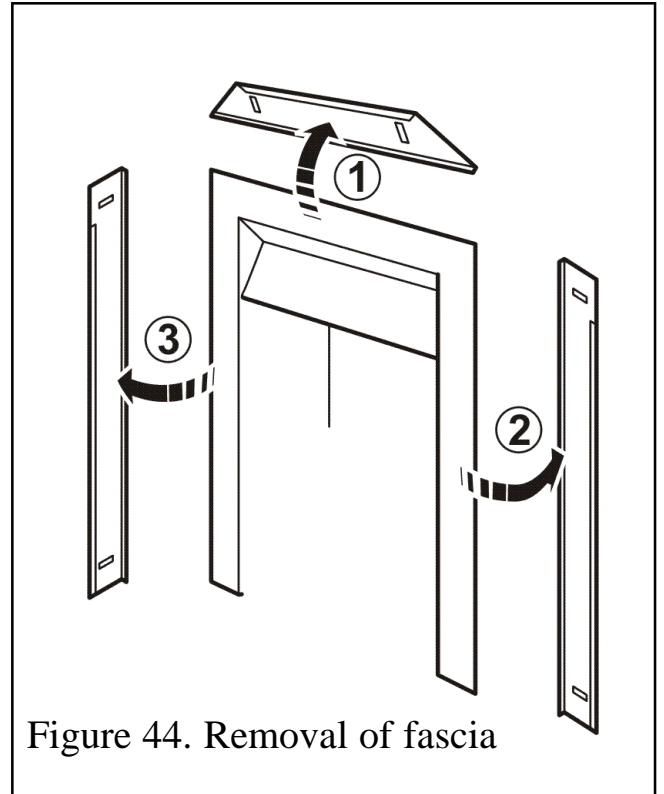

Figure 44. Removal of fascia
2. The fascia is made up of three trims. These trims are held in place by magnets. Remove the top trim by pulling forward. Place carefully aside (See figure 44).
3. Remove the side trims by pulling forward. Place carefully aside (See figure 44).